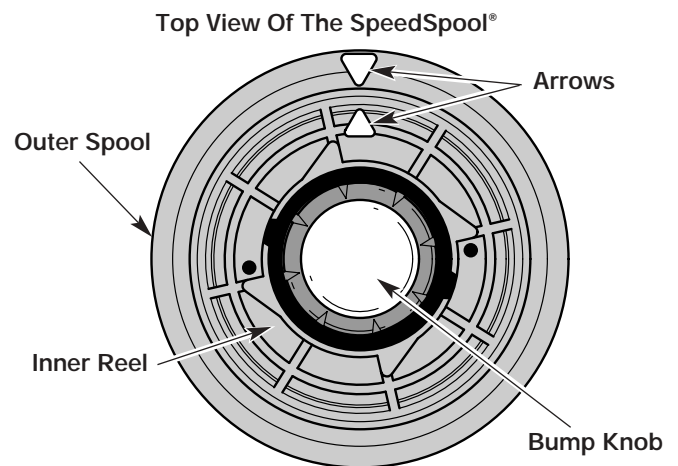

Fig. 18
2. Hold the outer spool and turn the inner reel counterclockwise to line up the arrows on the outer spool and inner reel (Fig. 18).